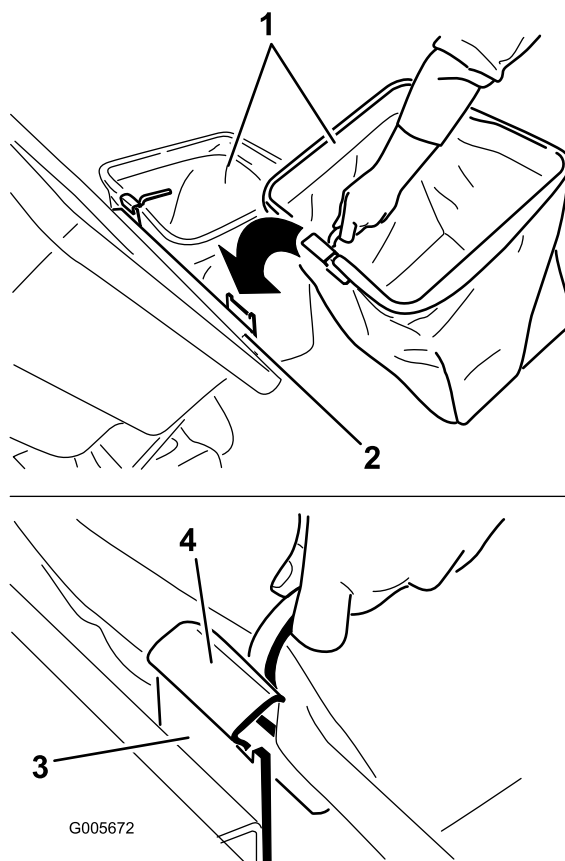

Figure 22
5. Install the bags by sliding the bag frame hooks onto the retaining brackets (Figure 22).